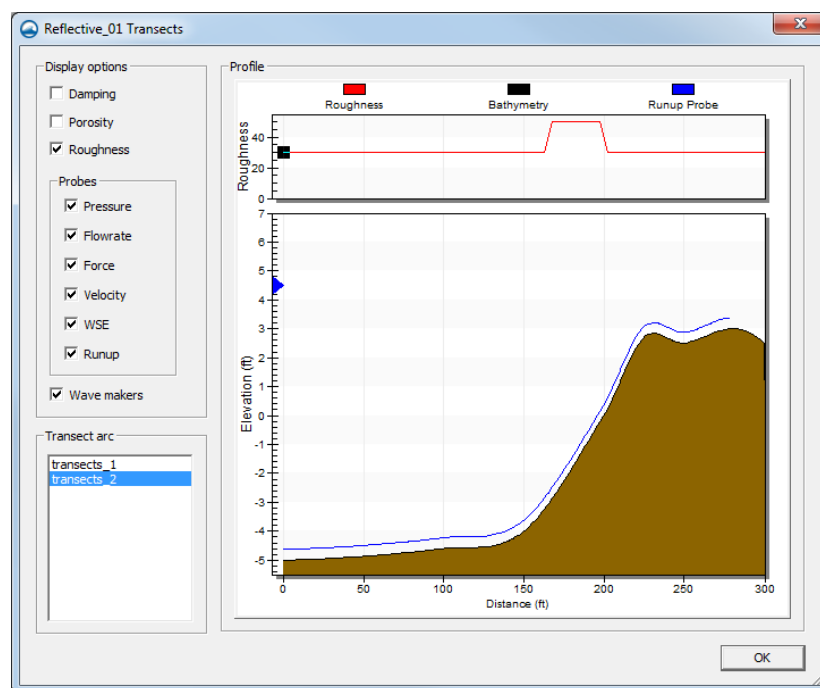

Figure 9 Changing roughness along transect_2
8. In the *Transect arc* section, select “transect_2” and note the plot along the top of the *Profile* section showing the changing Chezy roughness value (Figure 9).